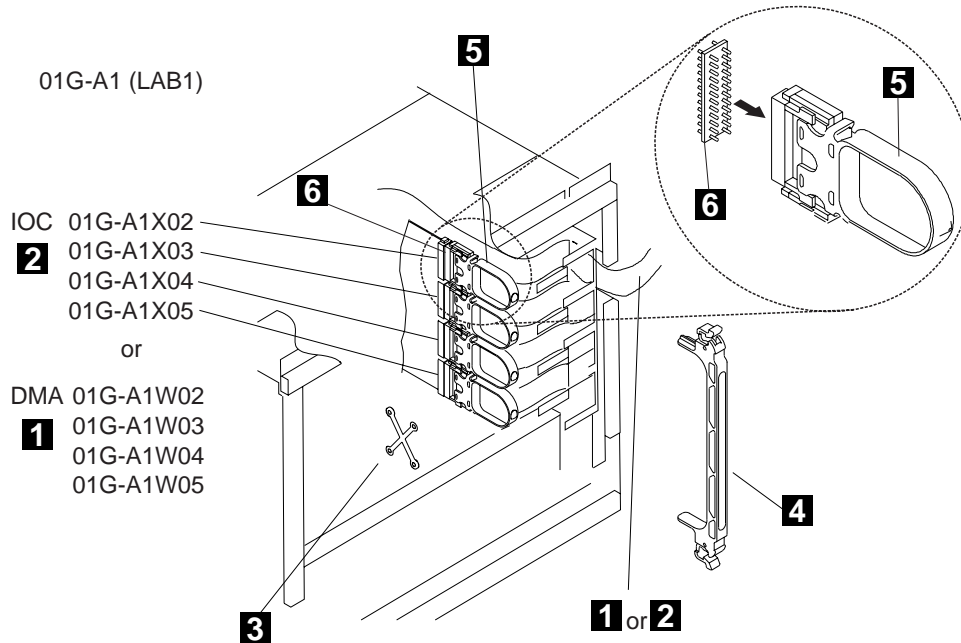

Figure 4-30. Plugging of the DMA and IOC Cables in LAB1
- Step 12. \_\_\_\_ Install short retainers **5** (PN 1953188) and four interposers **6** on the IOC bus cables **2** removed from 01G-A1 X02, X03, X04, and X05. Make sure the interposers are seated completely flush with the connectors on the cables as it takes considerable pressure to seat them properly (see Figure 4-30).
- Step 17. \_\_\_\_ Install short retainers **5** (PN 1953188) and four interposers **6** on the DMA bus cables. Make sure the interposers are seated completely flush with the connectors on the cables as it takes considerable pressure to seat them properly (see Figure 4-30).
- Step 19. \_\_\_\_ Clamp cables in raceways using retainers **3** (PN 0813519) see Figure 4-30.